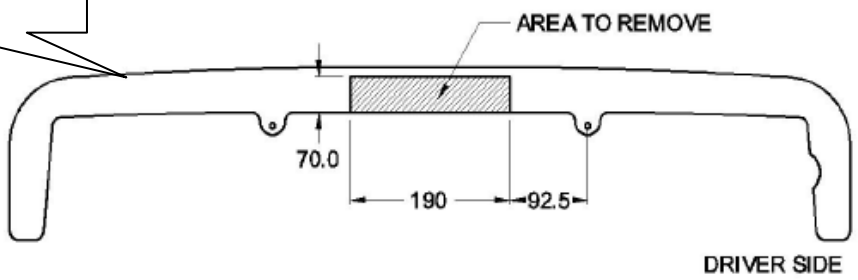

Fig 2
9. For vehicles from the 7th month of 2003 –onwards, fit spacer plate and use M16 x 60 bolts, and see bumper cut fig 2.